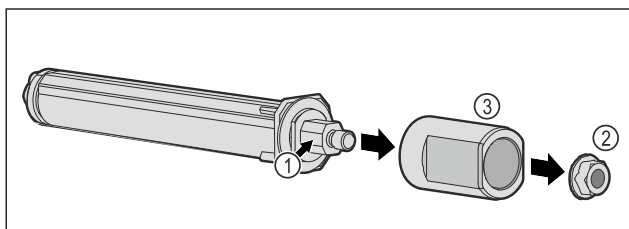

Fig. 53
- Do not disassemble the door locking system Fig. 53 (1).
- Remove the Fig. 53 (2) nuts.
- Take off the Fig. 53 (3) sleeve.